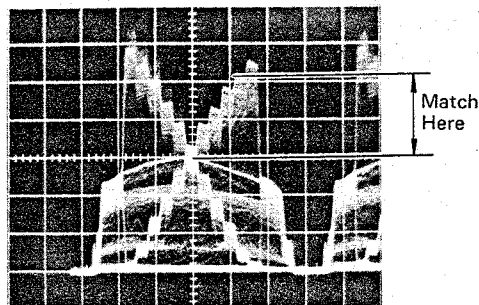

Fig. 6-4-43
- Connect the oscilloscope to TP308(R) and TP309(Y_L).
- Adjust RED TRACKING-3 VR310 so that the R signal matches the Y_L signal in the 8th~9th step of gray scale waveform. (Fig. 6-4-43)